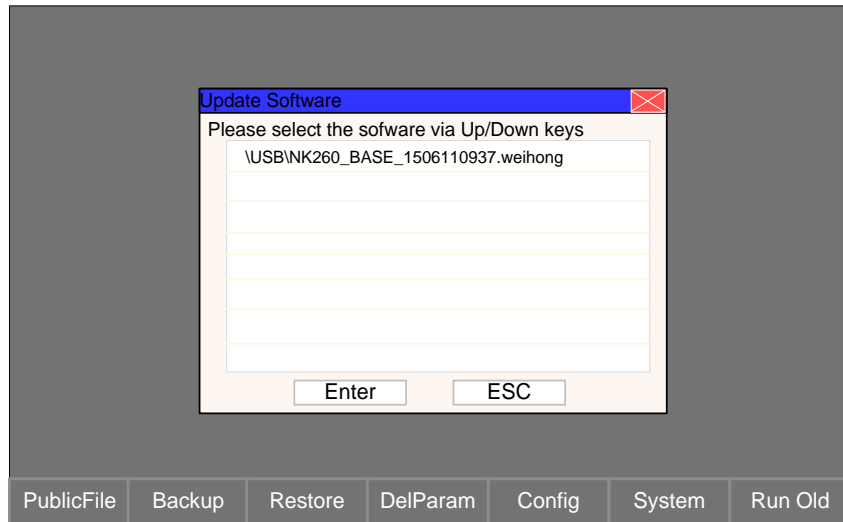

Fig. 4-2 Software Update Dialog Box
- 3) After USB device identification succeeds, press F6 “System” button to open dialog box named “Update software”, as shown in Fig. 4-2. Press arrow key “↑” or “↓” to select the target software application.